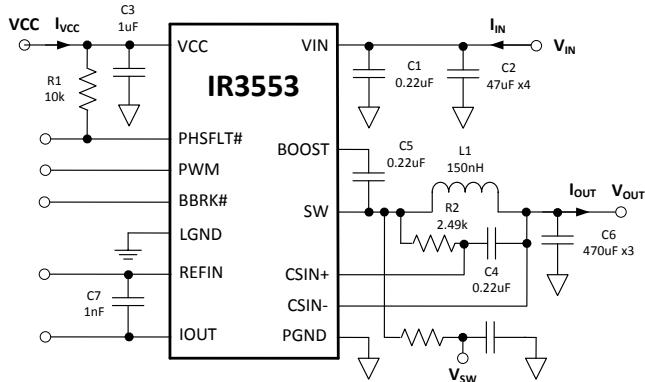

Figure 32: IR3553 Power Loss Measurement
Circuit of Figure 32, $V_{IN}=12V$, $V_{OUT}=1.2V$, $f_{SW}=400kHz$, $L=150nH$ (0.29mΩ), $VCC=7V$, $T_{AMBIENT}=25^{\circ}C$, no heat sink, no air flow, 8-layer PCB board of 3.7" (L) x 2.6" (W), no PWM controller loss, no inductor loss, unless specified otherwise.
The single-phase IR3553 efficiency and power loss measurement circuit is shown in Figure 32.